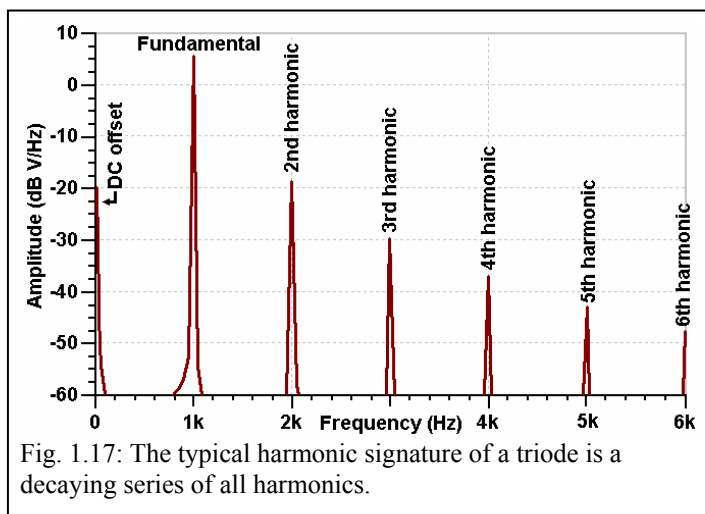

Fig. 1.17: The typical harmonic signature of a triode is a decaying series of all harmonics.
(2nd, 4th etc.) more than odd-order harmonics (3rd, 5th etc.). The 2nd and 4th harmonics are two and four times the fundamental frequency respectively, or one and two octaves higher. They are therefore musically related to the original sound and tend to make it fuller and richer. Odd harmonics (and high-orders in general) are often not musically related to the fundamental and so are dissonant. In small amounts they add timbre and make the sound more cool and aggressive, while large amounts will tend towards a harsh and fuzzy sound. Triodes, therefore, can have a pleasant warming effect on tone because they produce a decaying series of all harmonics, dominated by the second, as shown in fig. 1.17. The larger the audio signal is, the more of the load line the operating point moves over and so the greater the distortion, and in most triodes the harmonic distortion is directly proportional to signal level. If multiple gain stages are cascaded then each will add another layer of distortion on top of the last, progressively building up a thicker tone by increasing the number and amplitude of harmonics.
We might wonder why fig. 1.17 shows a component at 0Hz (DC) even though it represents a pure AC signal. This is because the waveform has been squashed on one side and stretched on the other, so it no longer has equal power above and below the zero crossing. The *average* value of the waveform is therefore not zero as it would be for a symmetrical wave, but has an average DC offset, and this effect is called **self rectification**. On transient signals the offset does not have time to settle, so it is really a steady-state phenomenon. This has an important bearing on the tone of an amplifier because it can shift the average operating point of a valve dynamically with signal level, which can have an effect like a compressor. In the author's opinion this effect is the main contributor to 'the valve sound' that is held in such high esteem by musicians, and is seldom emulated in solid-state distortion circuits. However, if left unmanaged it can have unwanted effects too, which will crop up later in this book.